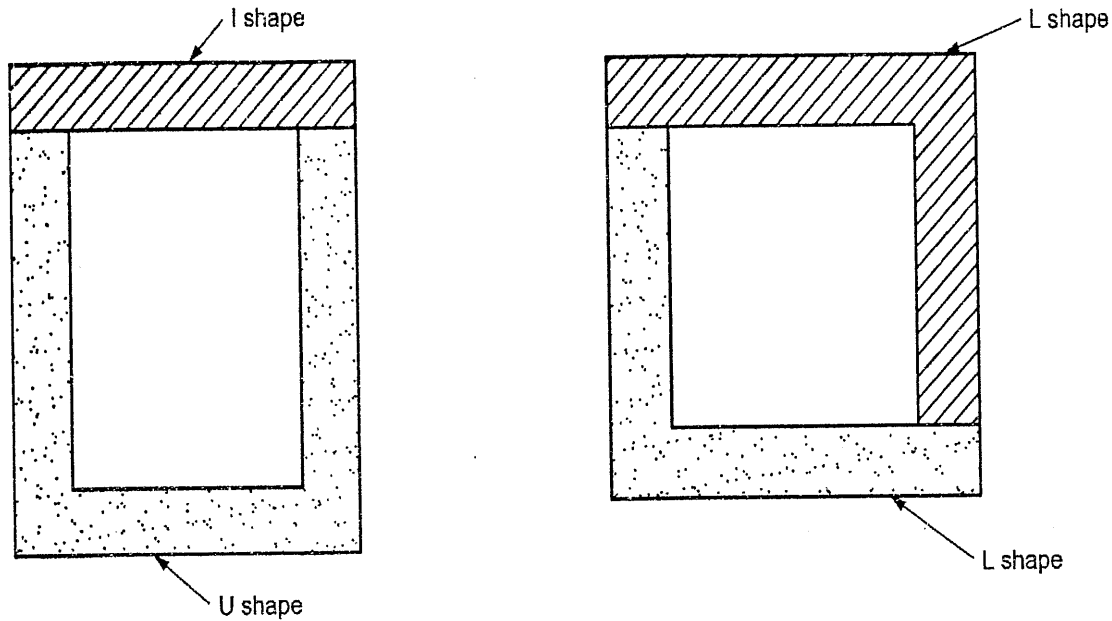

FIG. 3.10 : CORE LAMINATIONS
- The laminations for core-type transformers are of 'U' and 'I' shape and 'L' shape as shown in Fig. 3.10.